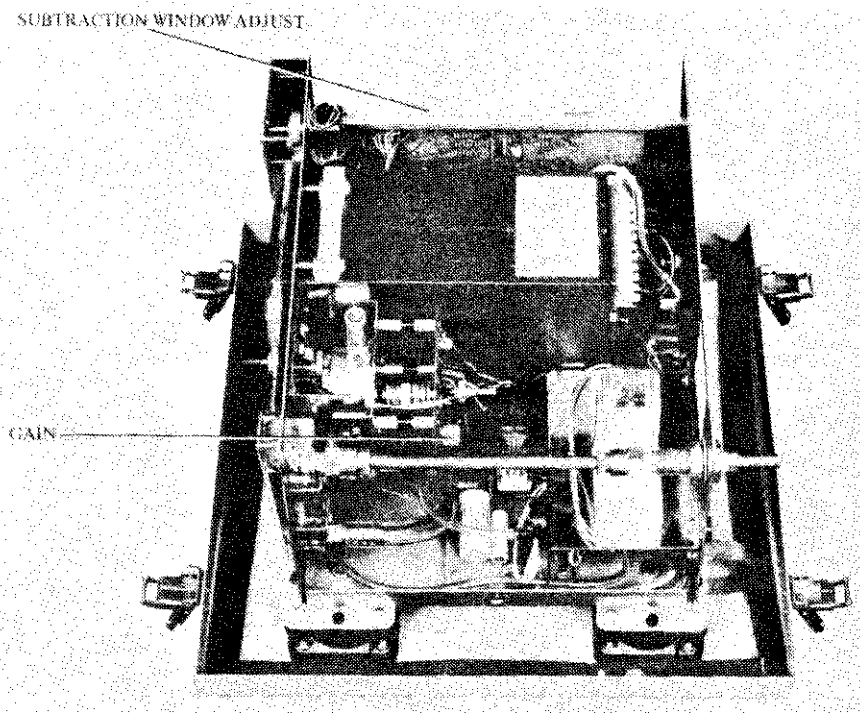

Fig. 3 Internal Controls
- 4. The location of the internal controls are shown in fig. 3